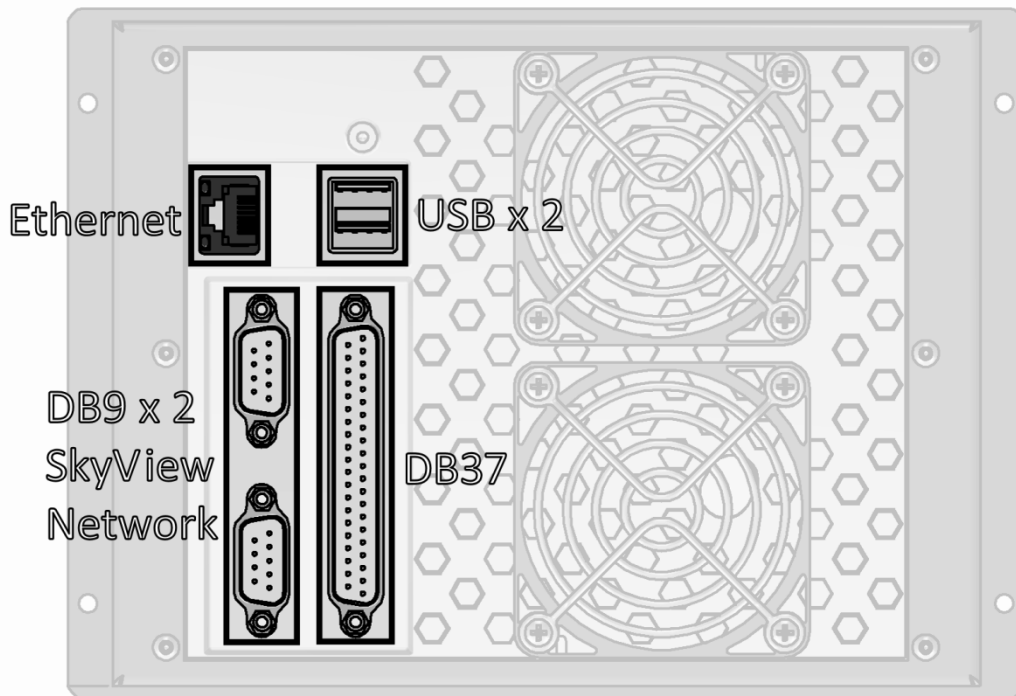

Figure 148: SkyView Display Connectors
SkyView displays have six (6) connectors on the back of the unit as illustrated in Figure 148:
- One (1) D37M for connection to the SkyView Display Harness (SV-HARNESS-D37).
- Two (2) D9M SkyView network connectors (SV-NET-xxxx).
- Two (2) Standard 4-pin USB 2.0 jacks for use with USB Series A plugs. Note that there is also a USB port on the SV-HARNESS-D37 for convenience.
- One (1) standard 8-pin RJ45 connector for use with twisted pair Category 5 Ethernet cable.